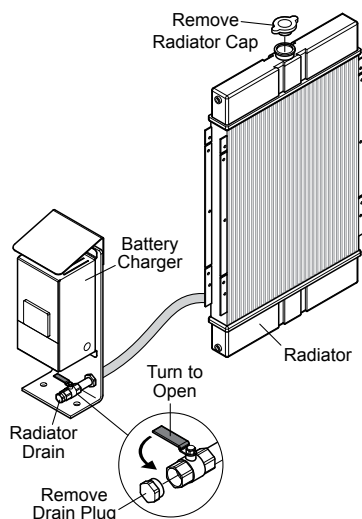

Figure 25. Draining Coolant
1. Remove radiator cap. Remove the coolant drain plug. Move the lever to the open position to start draining out coolant. See Figure 25.